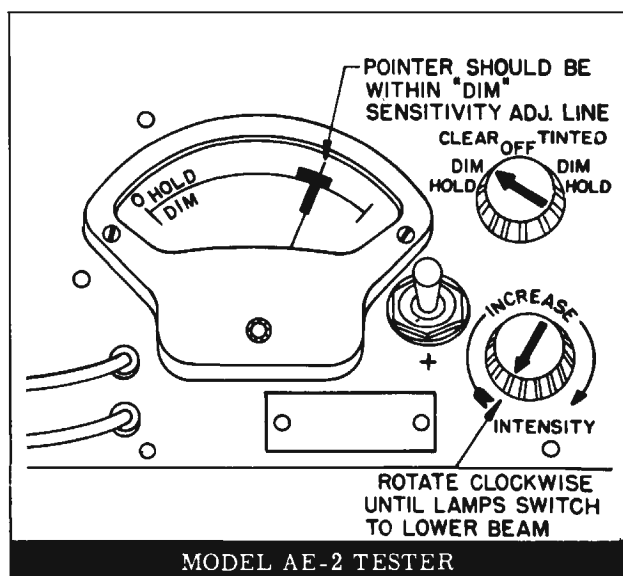

Fig. 13-39 Dim Sensitivity Test
1. Rotate tester Intensity Rheostat completely counterclockwise. (Fig. 13-39)